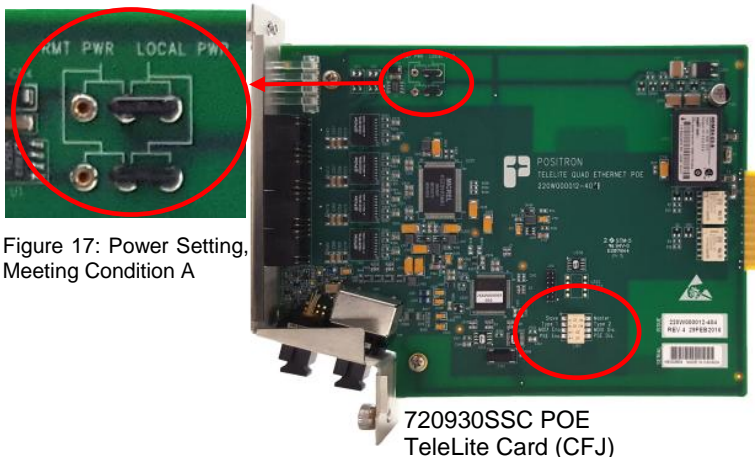

Figure 17: Power Setting, Meeting Condition A
- A. If the 720930xxx POE Ethernet card is to be powered by a local source of -48Vdc then the two on-board Power Option Jumpers should be set in the LOCAL PWR position. (Figure 17)
- B. If the 720930xxx card was to be powered by POE from the feeding modem (or CFJ) the Power Option Jumpers should be set to the remote power (RMT PWR) positions. (Figure 17)